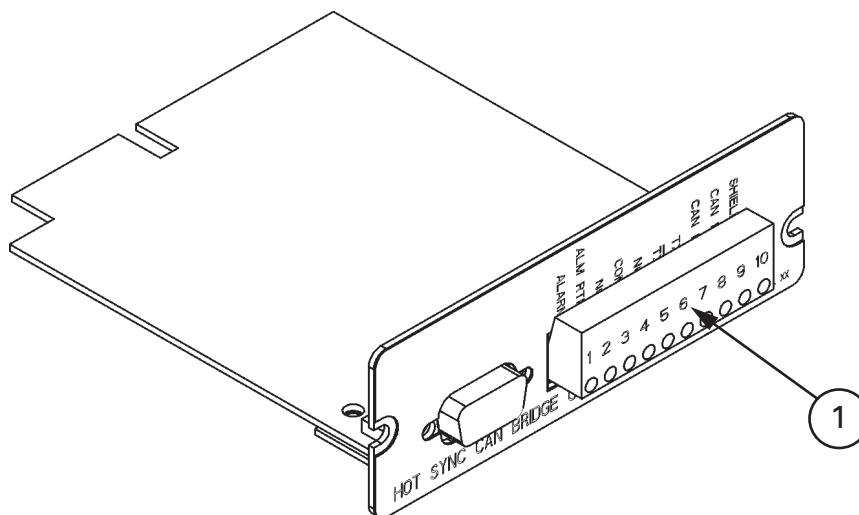
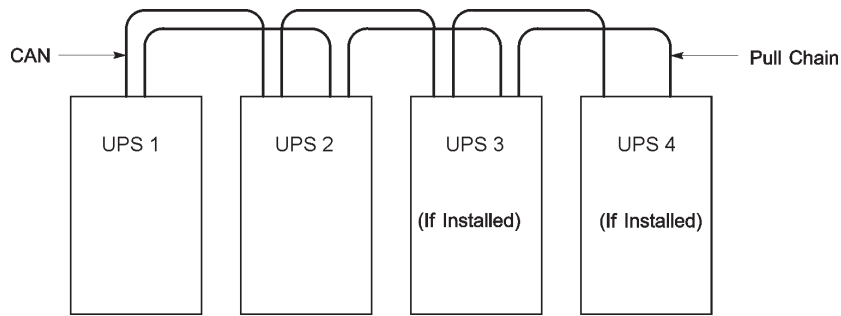
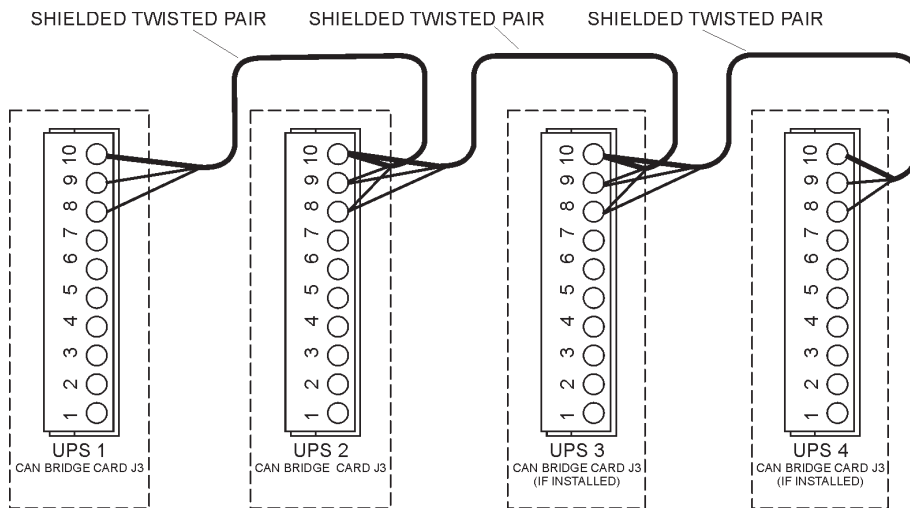

Figure 5-1. HotSync CAN Bridge Card
Figure 5-3. Distributed bypass system CAN and Pull-Chain simplified interface wiring
Figure 5-4. Distributed bypass system UPS CAN wiring without MOBs
As an option, a HotSync Controller Area Network (CAN Bridge Card, shown in Figure 5-1, can be installed to provide connectivity for operational mode control of a parallel system. In addition, this card can be used to connect optional system monitoring devices, such as a Remote Monitor Panel II, a Relay Interface Module II, or a Supervisory Contact Module II, to the UPS.
7. Route and install CAN wiring between the UPS cabinets. See Figure 5-1 and Table 5-1 on page 60 for the HotSync CAN Bridge Card terminal location and Figure 5-3, Figure 5-4, and Table 5-2 on page 63 for wiring information.
9. Route and install distributed bypass system pull-chain wiring between the UPS cabinets. See Figure 5-3 and Table 5-3 on page 63 for wiring information.
11. Route and install distributed bypass system pull-chain wiring between the UPS cabinets and tie cabinet MOBs. See Figure 5-4 on page 62 and Table 5-4 on page 64 for wiring information.